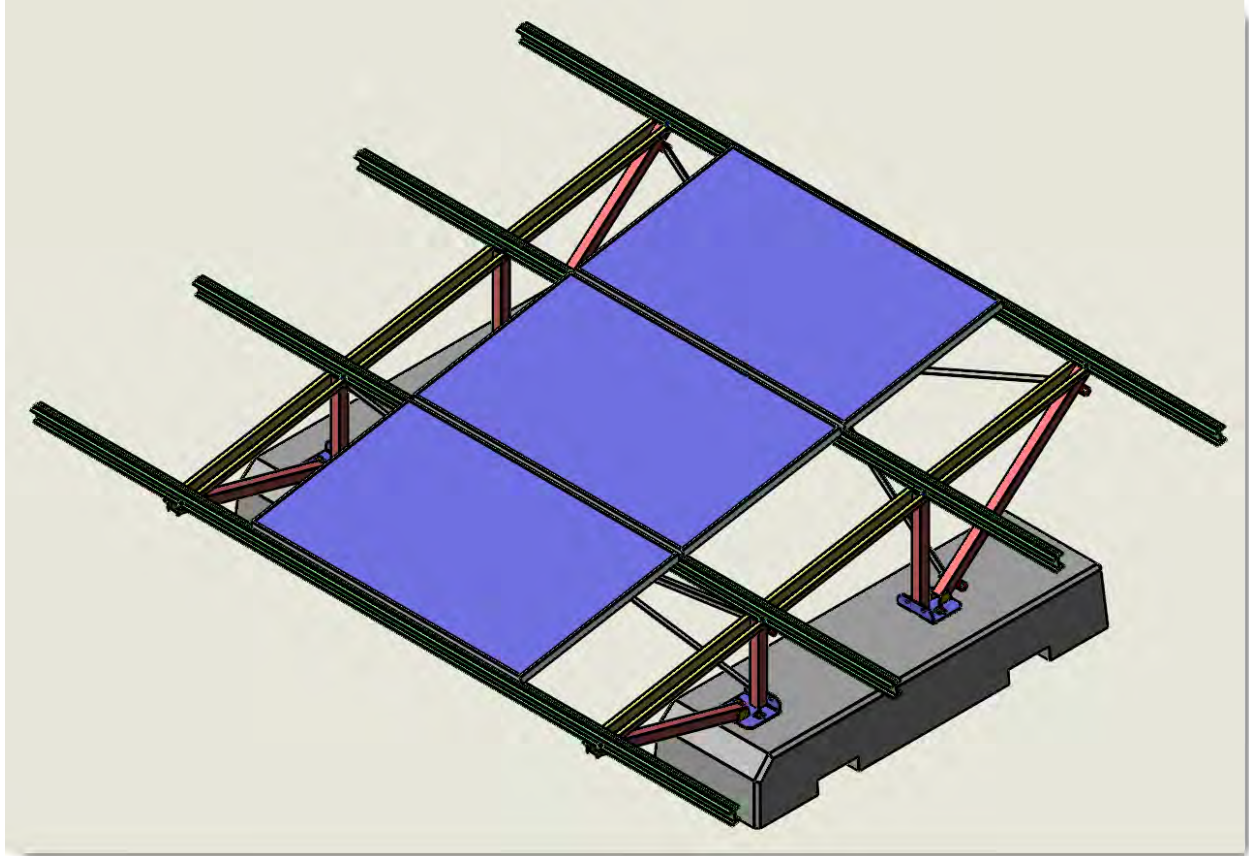

Figure 7
- a. STARTING WITH THE CENTER PANEL IN THE MIDDLE, LOCATE THE PV PANELS ON THE RACK. SEE FIGURE 7.